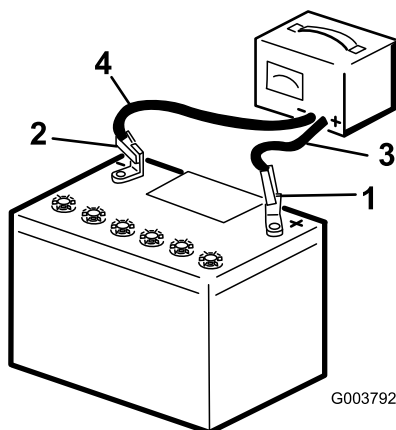

Figure 79
5. When the battery is fully charged, unplug the charger from the electrical source, then disconnect the charger leads from the battery posts (Figure 79).